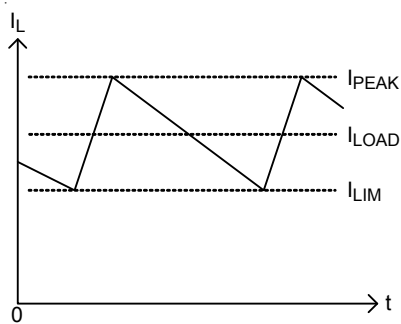

Figure 2. Valley Current-Limit
The RT8238B has cycle-by-cycle current limiting control. The current limit circuit employs a unique “valley” current sensing algorithm. If PHASE voltage plus the current-limit threshold is below zero, the PWM is not allowed to initiate a new cycle (Figure 2). In order to provide both good accuracy and a cost effective solution, the RT8238B supports temperature compensated MOSFET RDS(ON) sensing. The CS pin should be connected to GND through the trip voltage setting resistor, RCS. With the 10µA CS terminal source current, ICS, and the setting resistor, RCS the CS trip voltage, VCS, can be calculated as shown in the following equation.